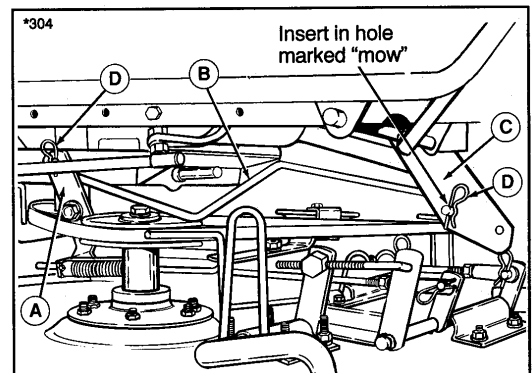

Figure 7. Installing PTO Rod
8. Insert one end of the PTO rod (B, figure 7) in the mower PTO arm (A) and the other end in the tractor PTO arm (C) in hole marked "MOW". The rod must be inserted into the holes from the right-hand side as shown. Refer to figure 7 to make sure you connected correct end of rod to front. Install the spring clips (D).